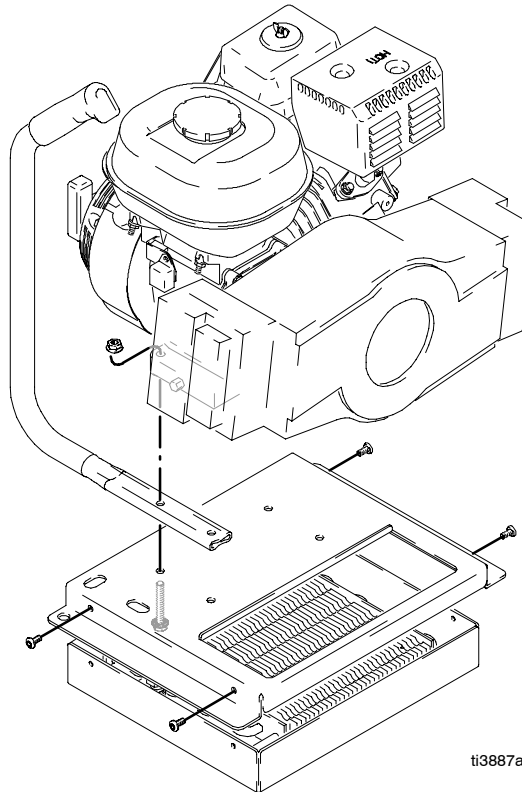

Fig. 22
3. Remove 4 bolts holding engine to frame. Fig.22.